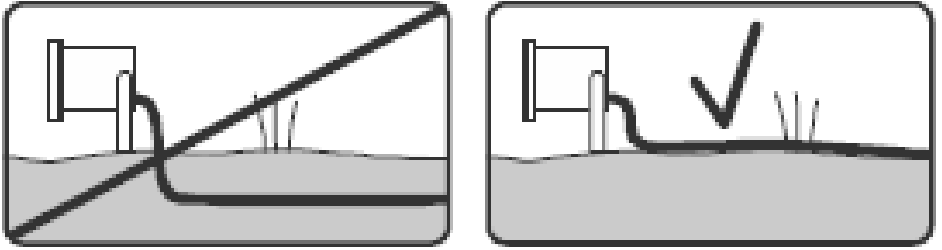

Fig.1
- The pre-installed cable supplied is for above-ground use only. Cables that are to be routed within walls or below ground must be protected by means of suitable conduit or trunking (see Fig. 1)